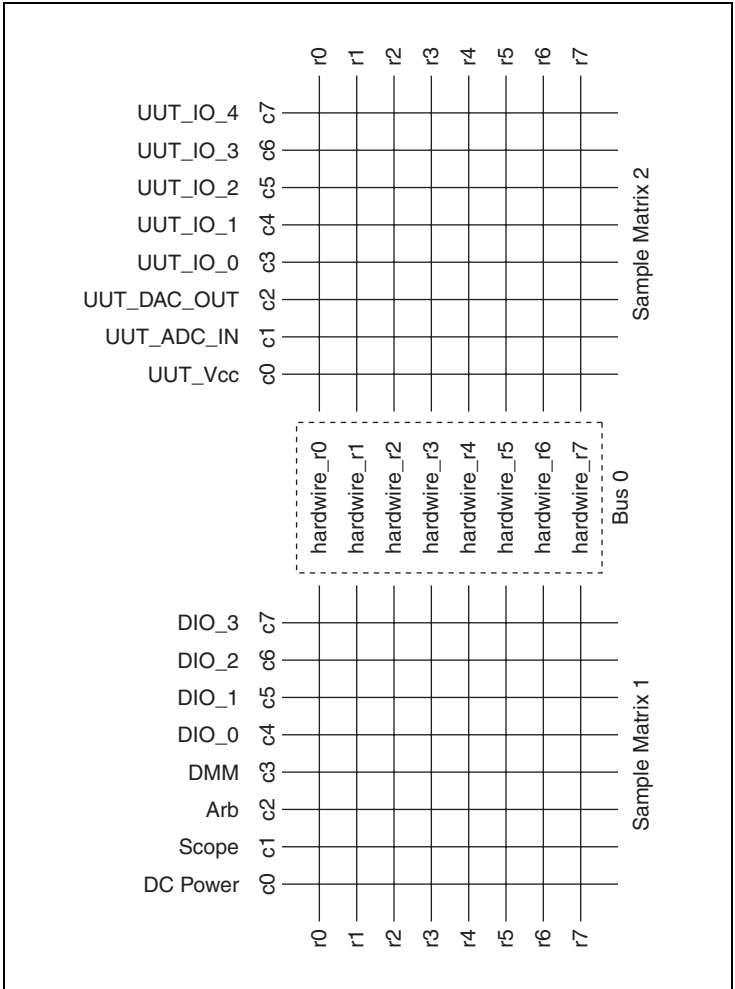

Figure 1. Example Switch System Layout
To acquaint you with the fundamentals of using NI Switch Executive, this tutorial creates an NI Switch Executive virtual device using two 8×8 matrices that operate as one 8×16 matrix. The architecture for the switch system you are creating for this tutorial is shown in Figure 1.
Now that the NI Switch Executive virtual device has been created, you need to configure the device. To begin, name your channels based on the configuration in Figure 1.
2. Repeat for `Scope`, `Arb`, `DMM`, `UUT_Vcc`, `UUT_ADC_IN`, and `UUT_DAC_OUT`. Refer to Figure 1 to determine what columns to rename.
Note All intermediate channels between two endpoints must be marked as reserved for routing. Marking a channel as reserved for routing notifies NI Switch Executive that it can use the given channel as needed to complete a route. For example, to connect `c0` to `c1` in the `SampleMatrix1` shown in Figure 1 requires a reserved for routing channel. In this example, `r0`, `r1`, `r2` and so on can all (or each) be a reserved for routing channel.